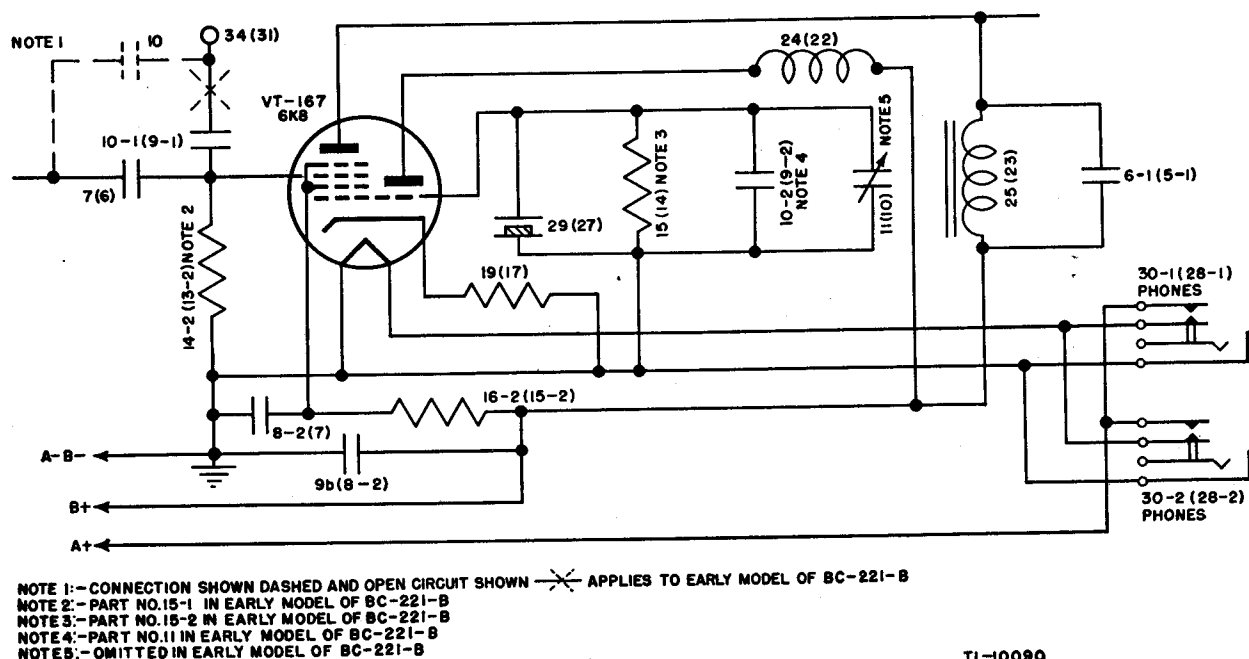

Figure 37 Frequency Meter BC-221-(2), functional diagram, crystal-oscillator circuit.
The crystal circuit uses the triode section of Tube VT-167 (6K8) shown in figure 37. The oscillator operates at the fixed frequency of 1,000 kc when the operation switch 27 (26) is placed in the CRYSTAL or CHECK position. The operation switch controls the crystal oscillator by opening or closing its plate voltage circuit. The oscillator circuit is designed to generate considerable harmonic energy so that it can be used to calibrate the variable frequency oscillator at several points over its entire range, as well as to supply whole multiples of 1,000 kc for the calibration of receivers and similar equipment. The necessary plate circuit impedance is built up across an untuned inductance 24 (22), inclosed in a metal can. Resistor 15 (14), part No. 15-2 in the early model BC-221-B, is the oscillator grid leak and works in conjunction with the tube cathode resistor 19 (17). The variable capacitor 11 (10) is connected across the crystal
29(27) for the purpose of adjusting the frequency of the crystal to a closer point than can be economically obtained by grinding alone. When the frequency meters are adjusted during manufacture, the variable capacitor is set up to produce a frequency of $1,000 \text{ kc} \pm 5 \text{ cycles}$ at 20° centigrade. The fixed capacitor 10-2 (9-2), shunted across the crystal, minimizes any change in fundamental frequency due to small changes in the crystal capacitance. It should be noted, that part No. 11 (10) was omitted from the early BC-221-B, and that part No. 10-2 (9-2) was part No. 11. Further reference to figure 37 shows that the output of the crystal oscillator is electron coupled to the antenna through the No. 3 grid of the hexode section of Tube VT-167 and the capacitor 10-1 (9-1). Note further, that in the case of the early BC-221-B, this connection was made by capacitors 7 (6) and 10 in series. For further details on the crystal oscillator, see paragraph 22.